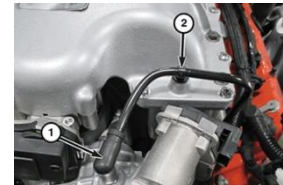

Fig 4: Fuel Purge Hose
8. Disconnect the fuel purge hose from the supercharger nose and supercharger (Fig 4: ① & ②).